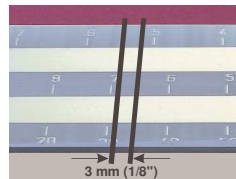

Figure 2. Reading the gauge - Elcometer 2020, 2041 and 2050
6. **Elcometer 2020, 2041 and 2050:** Find a band across the groove(s) 3 mm (1/8") wide which contains 5 to 10 particles of the material (Figure 2).